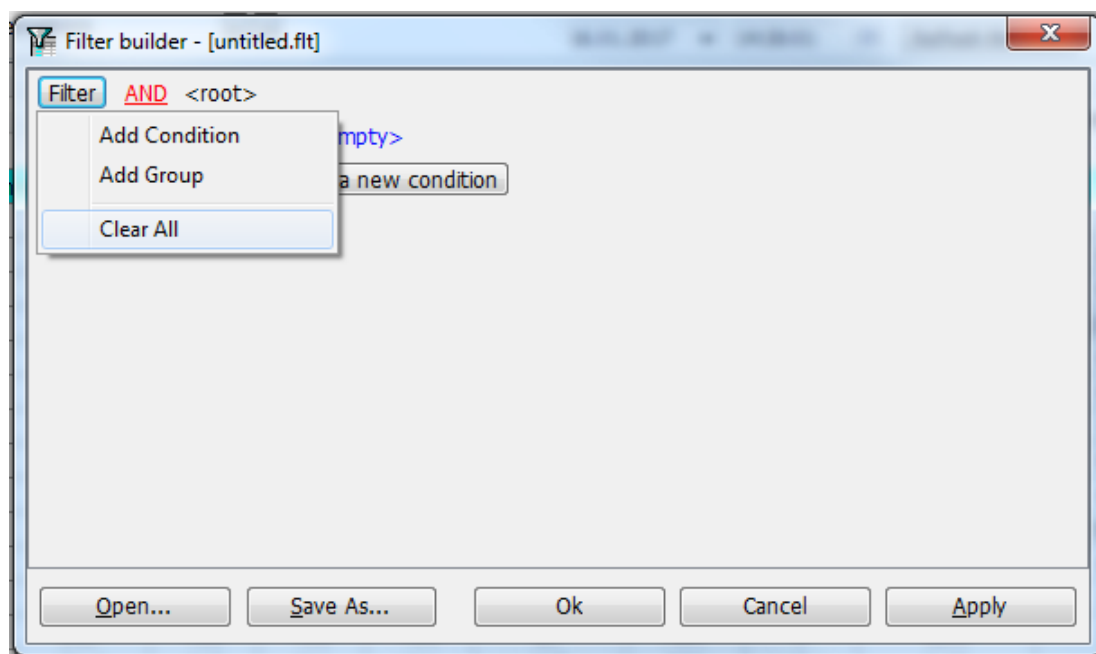
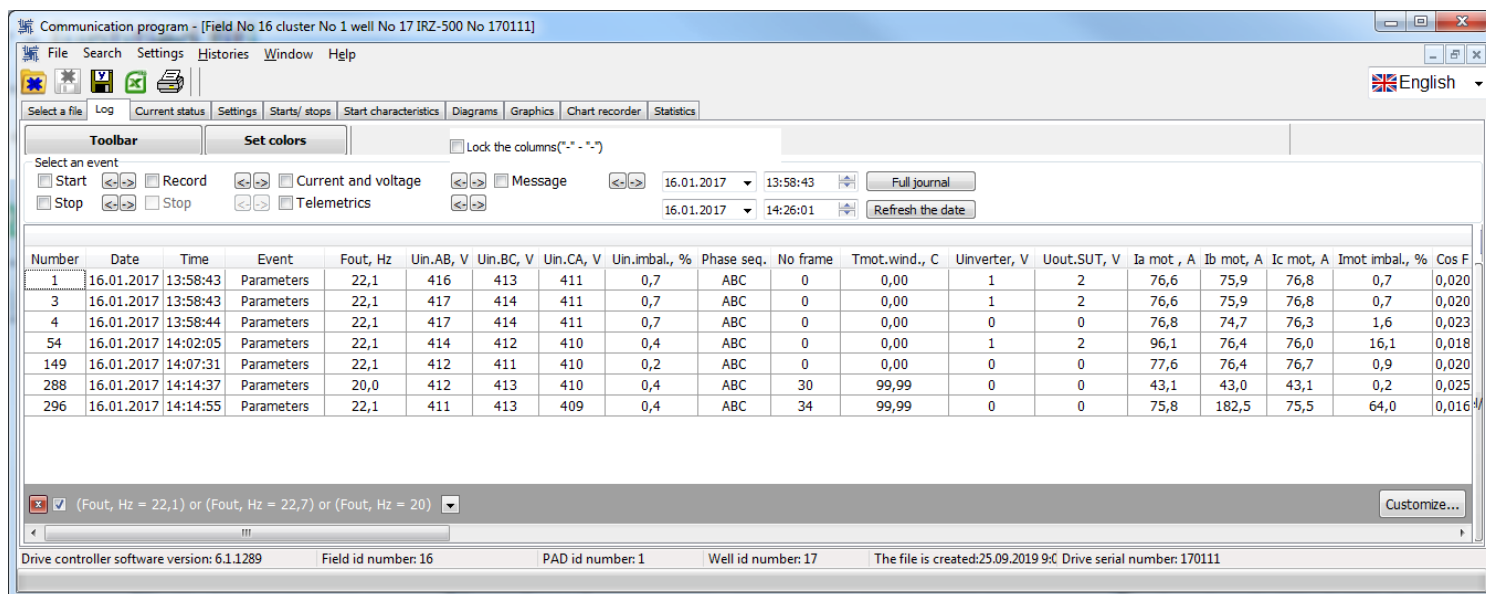

Fig. 13
Fig. 15
To add group of conditions, press  or  with the subsequent selection of the “Add Group” item from the drop-down menu (see Figure 13).
User can delete group of conditions or individual condition by pressing  against the corresponding group or condition with the subsequent selection of the “Remove” item from the drop-down menu (see Figure 13). You can delete all conditions and groups by pressing  and selecting “Clear All” from the drop-down menu.
1. Set the column name (see Figure 13, green text) by pressing on the green digit and then selecting the required number from the drop-down menu.
2. Set the desired condition (see Figure 13, brown text) by pressing on the brown text and then selecting the desired condition from the drop-down menu.
3. Set the parameter value for comparison (see Figure 13, blue text) by pressing on the blue text "<empty>" and then entering the desired parameter value.
To establish relation for groups of conditions, press on the red letter **“AND”** (see Figure 13) and select the required type of relations from the drop-down list.
When working with filters, the indicator of filter applying to the table is at the bottom of the table (see Figure 15).
Figure 15 indicates the table to which the filter is applied with precondition: “Display all rows for which the "Fout" column has a value of 22.1 OR 22.7 OR 20.0.” The filter indicator line shows the filter condition, as well as the icons , and . When is pressed, the current “Filter Settings” appear (see Figure 13), where you can edit the filter and save it for loading and applying in the future. Unchecking disables table filtering without deleting the filter, i.e. the next time it is checked, you can enable filtering again. Pressing turns off the filter and closes the line of the filter indicator, i.e. to reuse a filter you must recreate it or load it from a file (if it was previously saved).